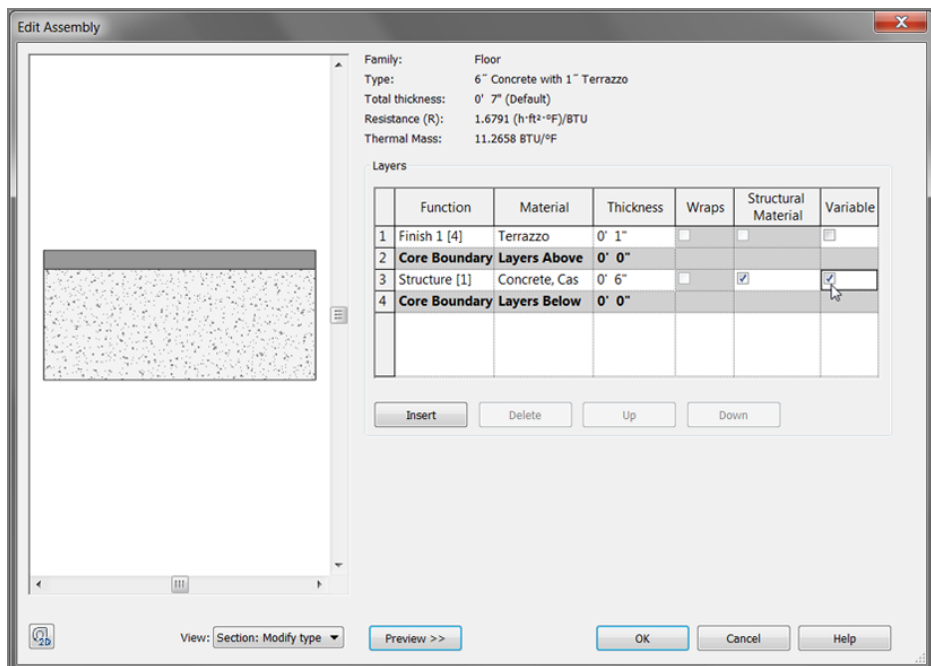

FIGURE 6.25: You can see a preview of the floor section as it's being built.
11. At the far right in the rows in the Layers field are Variable check boxes. Select Variable for the Structure row, as shown in Figure 6.25. This will enable you to slope the top of the slab if need be. Only the layer that is set to be variable will actually slope. Any layer that is on top of this variable layer will be pitched.
12. At the bottom of the Edit Assembly dialog box, click the Preview button. A graphic preview of your floor appears in a sectional view (see Figure 6.25).